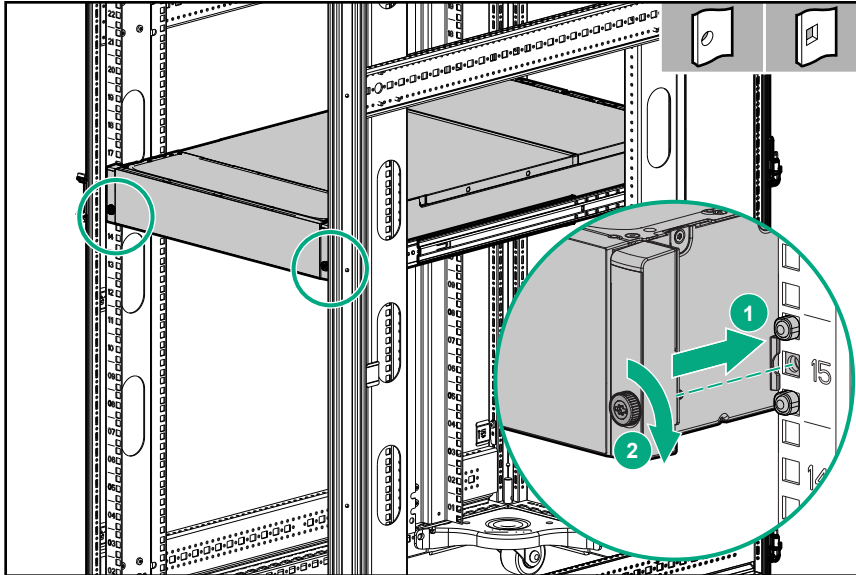

Figure 3: Secure StoreEasy 1X60 to the rack
- Secure the StoreEasy 1X60 to the rack rails using thumbscrews on the front bezel as shown in Figure 3.